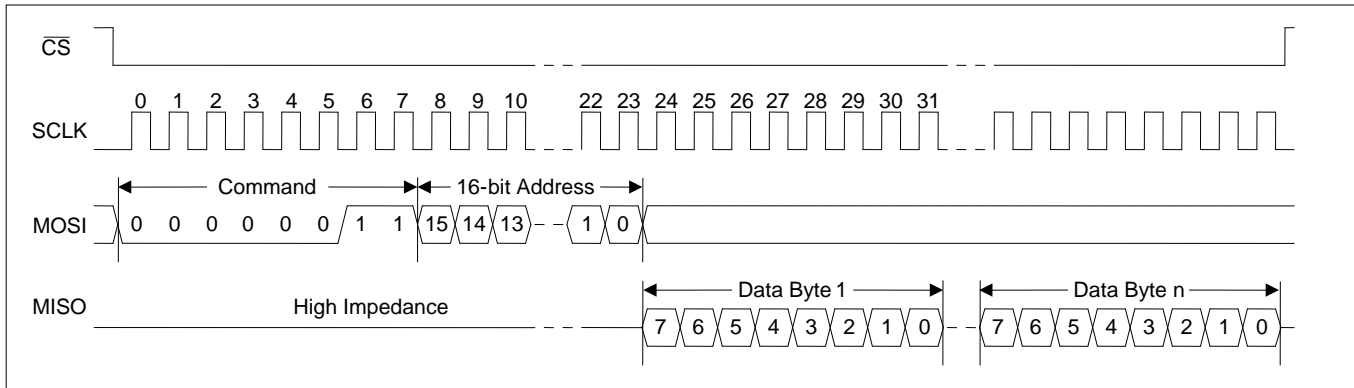

Figure 4 - SPI Read Transaction Functional Timing
**Read Transactions.** After driving CSN low, the bus master transmits the read command followed by the 16-bit address. The device then responds with the requested data byte on MISO, increments its address counter, and prefetches the next data byte. If the bus master continues to demand data, the device continues to provide the data on MISO, increment its address counter, and prefetch the following byte. The read transaction is completed when the bus master drives CSN high. See Figure 4.